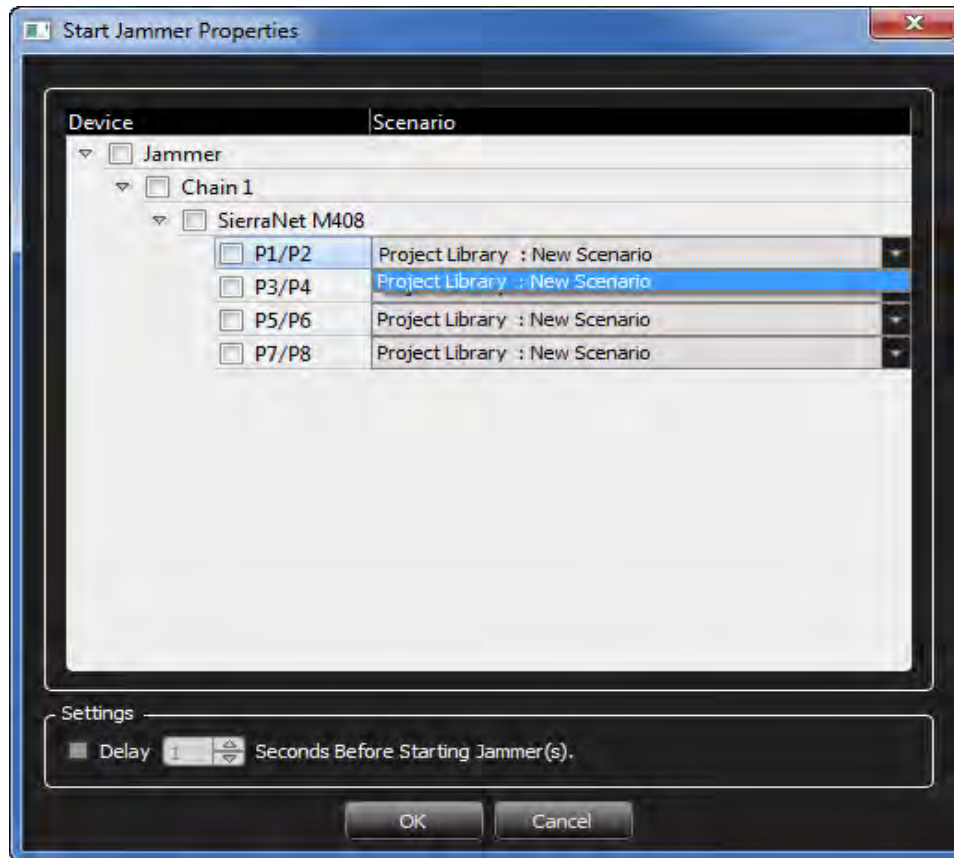

Figure 7.4: Start Jammer Properties
1. Drag and drop the **Start Jammer** command to display the *Start Jammer Properties* window (Figure 7.4).